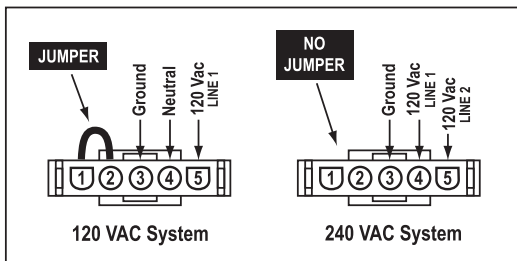

Figure5
- If system is wired for 120VAC power, verify a jumper wire is installed between positions 1 and 2 of the power cord connector. On systems wired for 240 VAC, the jumper wire should be removed [Figure 5].
4. Disconnect power cord from connector on control unit. Inspect power cord connector for bent, damaged, or recessed wires and terminals [Figure 5].
7. Check the voltage between positions 4 and 5 of the power cord connector [Figure 5].